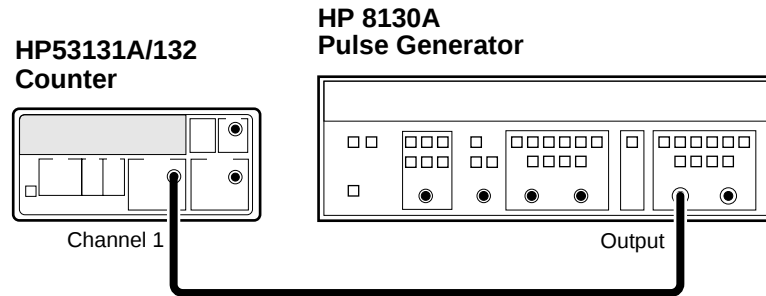

Figure 1-5. Time Interval (Channel 1 TO 2) Test Setup
- 1 Connect the pulse generator signal to Channel 1 of the Counter as shown in Figure 1-5.**